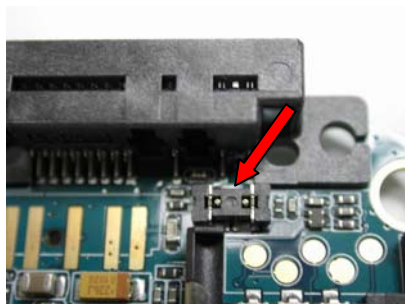

Fig.4.3
- Check that the Microphone Connector (Fig.4.3) is not oxidized. Replace it if necessary.